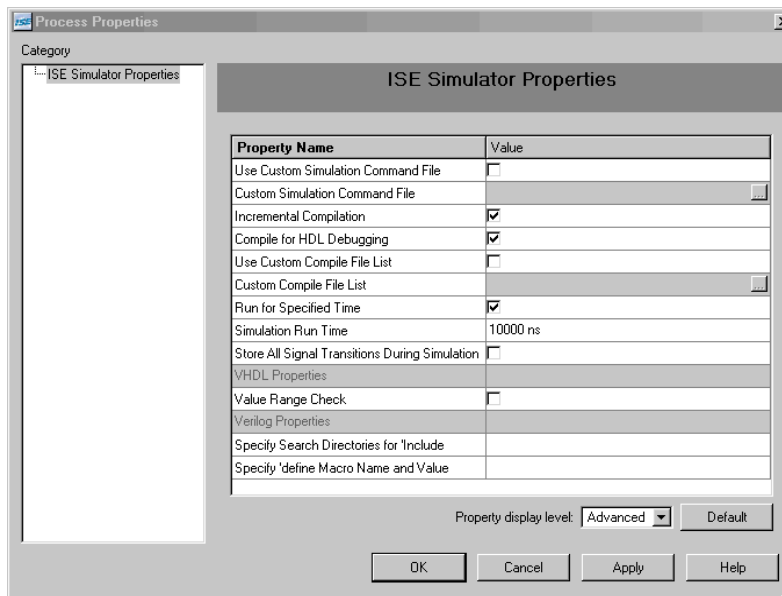

Figure 4-9: Behavioral Simulation Process Properties
5. In the Process Properties dialog box (Figure 4-9), set the Property display level to **Advanced**. This global setting enables you to now see all available properties.